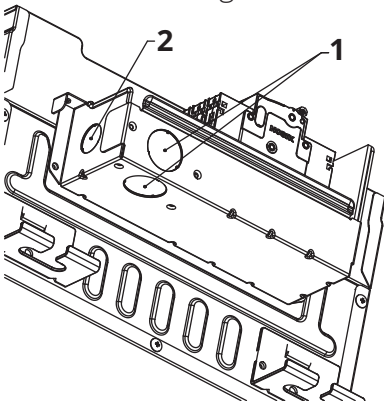

Fig. 5.9
2. You will notice three circular covers on the circuit breaker box, as shown in the illustration below. The two covers labeled No. 1 in Fig. 5.9 below are each suitable to use to feed the DIYPRO™ cable into the circuit breaker box. The hole labeled No. 2 is suitable for other types of cables. Break-out and remove one of the circular covers for the DIYPRO™ Cable that best suits your installation. Then, feed the end of the DIYPRO™ Cable that has a metal clad into the circuit breaker box through the break-out hole.